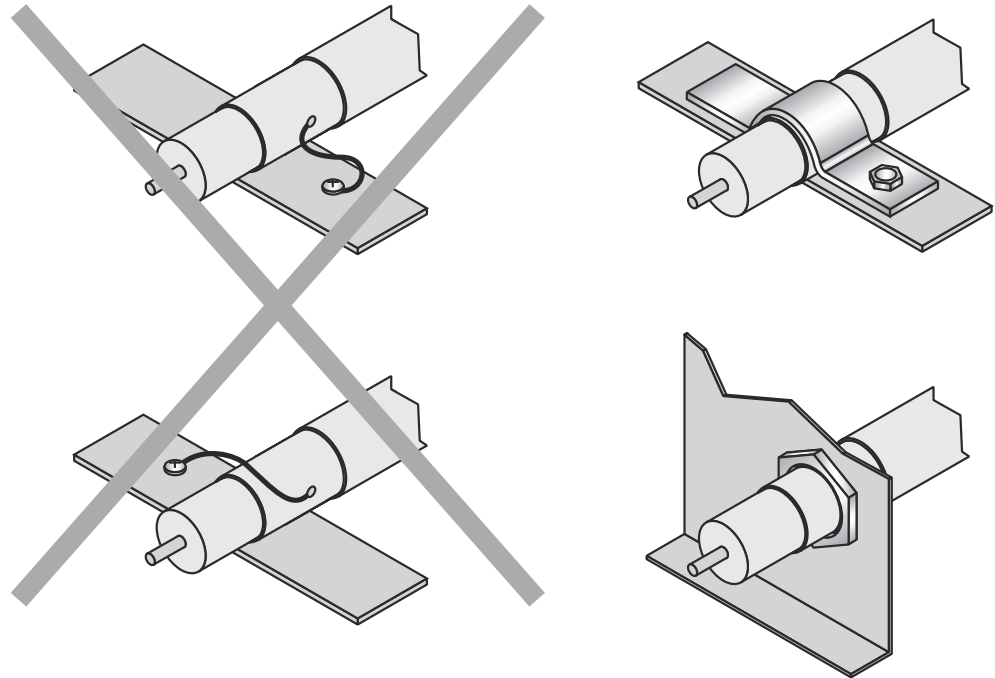

Figure 5: Make an extensive and low-impedance ground connection of the cable shield in the control cabinet.
- The cable shield in the control cabinet must be connected to a large area of the signal ground, see figure 5, page 31).